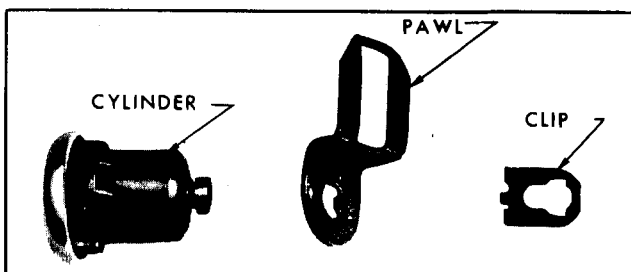

Fig. 6-56-Door Lock Cylinder Assembly
- With a pointed tool, disengage pawl retaining clip and remove pawl (Figure 6-56).